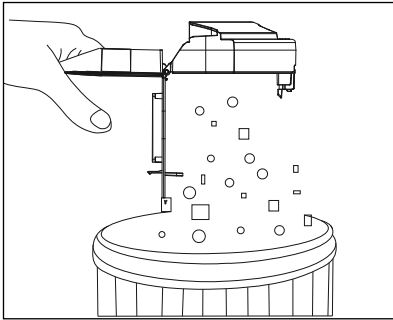

Fig. 9
- 3) Empty the contents of the dust container **1b** into a waste container (see Fig. 9).